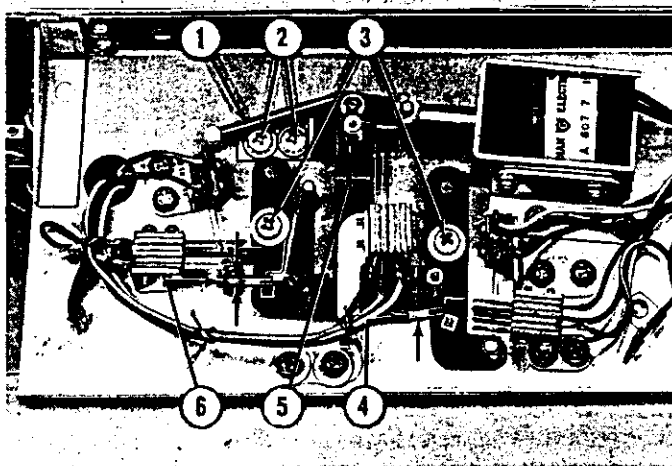
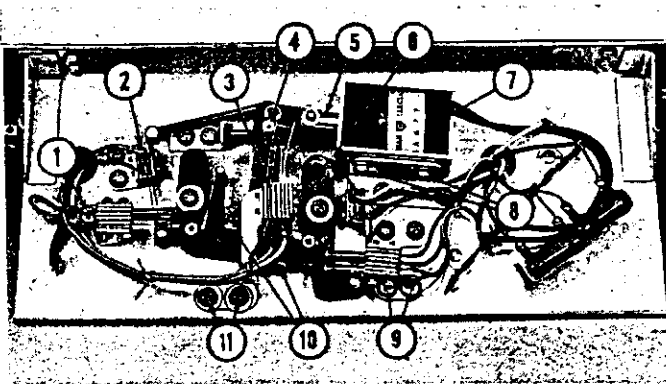
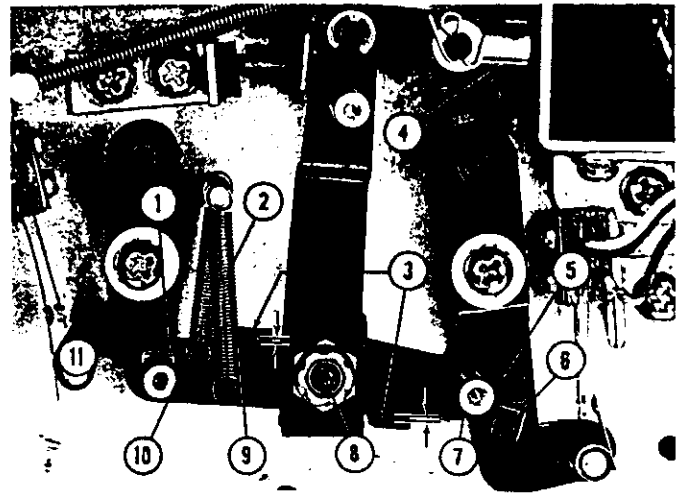

Fig. 5. SELECTOR SWITCH AND LATCH ADJUSTMENT
Fig. 6. SELECTOR SWITCH AND LATCH ADJUSTMENTS
Fig. 7. SELECTOR SWITCH AND LATCH ADJUSTMENTS
will be latched "out" until selection has been completed or the "Reset Switch" used to release the latch solenoid. The reset switch permits the release of either a letter or a number button any time before selection has been completed by pressing both a letter and a number. The wiring of both the letter and the number switches is a continuous series circuit. Therefore all letter and number switches beyond the one selected, will be isolated from the source of power and only the selected switch may receive the selection pulse. Both the letter and the number latch linkage (Fig. 5) are accompanied by the conventional latch switches and series switches.
Selector Switch Assembly, Figures 5, 6 and 7.
b. Adjustment of the latch solenoid stop bracket should be made with the link and plunger retracted against the stop bracket by the latch solenoid retracting spring (Item 1, Fig. 5). Loosen the two bracket screws (Item 2) and move the bracket on its elongated mounting holes to provide $1/32$ " clearance between the tip of the trip lever and the adjacent surface of the pawl as indicated at items 4 and 6 in Figure 5. Check this requirement after tightening the stop bracket screws. If necessary, repeat the adjustment to obtain average clearance of $1/32$ ".
c. The adjusting screws in the number trip lever and the letter pawl (Item 3, Fig. 5) serve to take up back lash in the latch linkage. When the latch solenoid is manually held in its actuated position as shown in Figure 6, and a number and letter switch buttons are firmly depressed, the number pawl (Item 1, Fig. 7) and the letter pawl (Item 6, Fig. 7) should drop snugly into the number trip lever (Item 11, Fig. 7) and the letter trip lever (Item 5, Fig. 7) respectively.
d. Adjustment of the release lever clearance (Item 10, Fig. 6) is accomplished by proper positioning of the latch solenoid (Item 7, Fig. 6), however, it is recommended that the latch solenoid switch (Item 3) be loosened at its mounting bracket (Item 11) to prevent bending of its blades during the following procedure.
(1) The latch solenoid may now be moved on the elongated mounting holes in its bracket by loosening the two screws (Item 8). The latched position of the linkage should be established as described in (c) and the latch solenoid, with its link and plunger (Item 4, Fig. 7) held firmly bottomed in the solenoid, adjusted to provide clearance as shown at items 7 and 9 of Figure 7. The closest of the two release tabs (Items 3, Fig. 7) to its corresponding arm, should be $1/32$ " when the two pawls (Items 1 and 6) are fully engaged. It is important that both of the arms as well as the release arm, operate freely on their mounting stud (Item 8). The elastic stop nut at item 8 is adjustable for this purpose.
(2) The latch solenoid switch (Item 3, Fig. 6) may now be adjusted to provide $1/32$ " to $1/16$ " opening of its normally closed contacts when the latch solenoid is held in its fully actuated position as shown in Figure 6. At the same time its normally open contacts should close and overtravel enough to provide good wiping action of the contacts.
e. The number and letter latch switches (Items 1 and 9, Fig. 6) are assembled and set to provide normally open contacts. This opening should be $1/32$ ". When the latch solenoid is actuated electrically under normal operation, or pre-set manually as described in "c", the adjusting screws indicated at items 1 and 9 should be slightly loosened and the switch brackets moved to produce good contact of the switch blades and sufficient overtravel to create wiping action of about $1/32$ ".